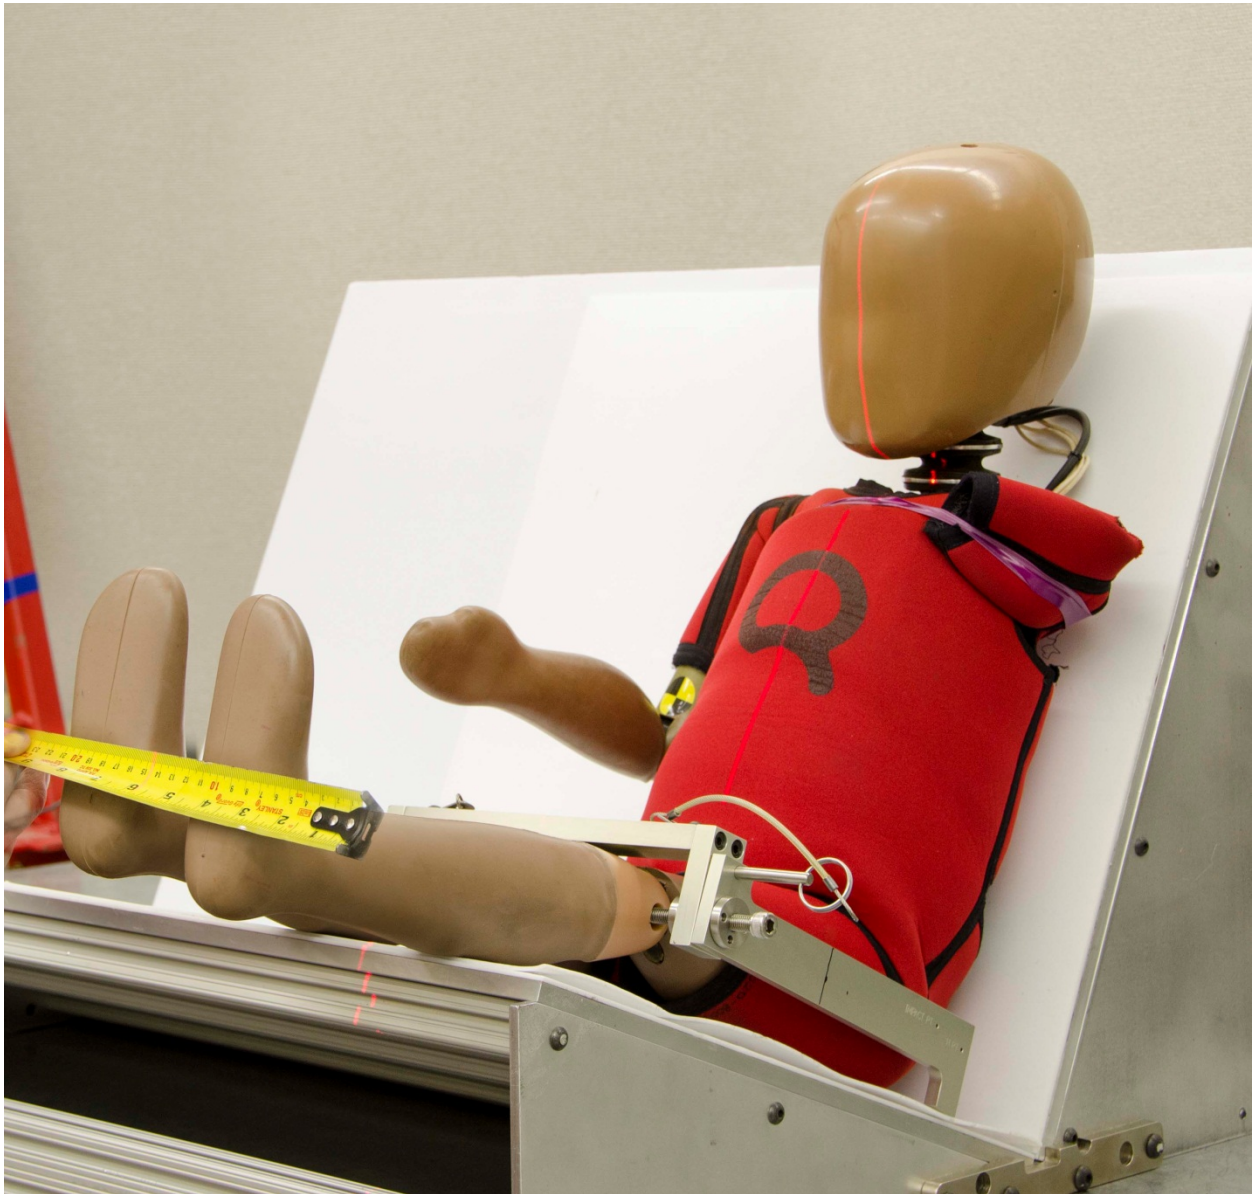

Figure 116. Adjusting the dummy laterally
- With the pendulum in its lowest resting position, draw a reference line along the bench support surface along the path of the pendulum; using a line laser device³⁴ (set for vertical) positioned on a tripod (Figure 116) will aid in this process.